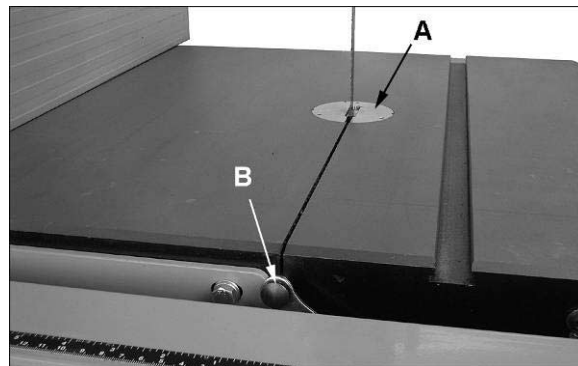
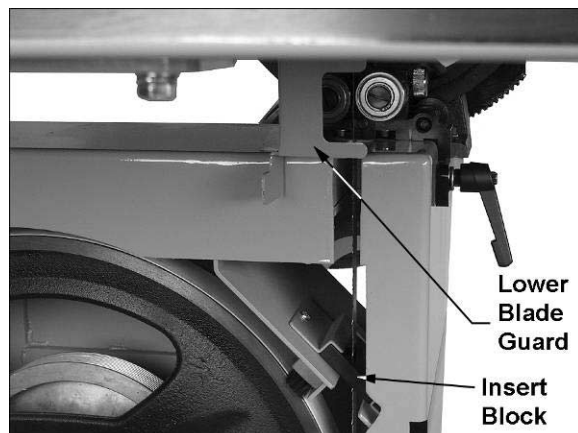

Figure 23
Figure 24
Refer to Figures 23 and 24.
- Remove the *table insert* (A, Figure 23).
- Pull out *table pin* (B) at the end of the slot.
- Open upper and lower doors by rotating the door catches. Open the lower blade guard and slide out the insert block (Figure 24).